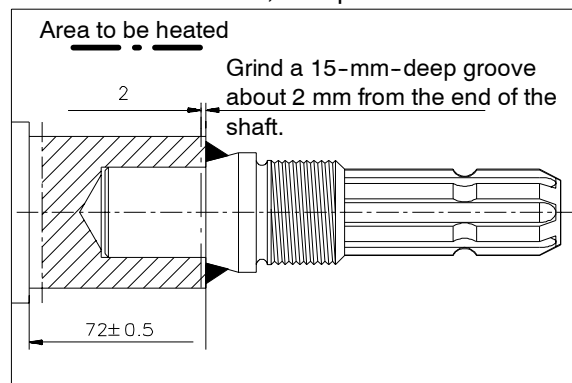

Fig. 31. Replacing the splined shaft.
4. Grind an 15 mm-deep groove about 2 mm from the edge of the shaft. See Fig. 31.
7. Clean the shaft hole and install the new shaft as shown in Fig. 31..